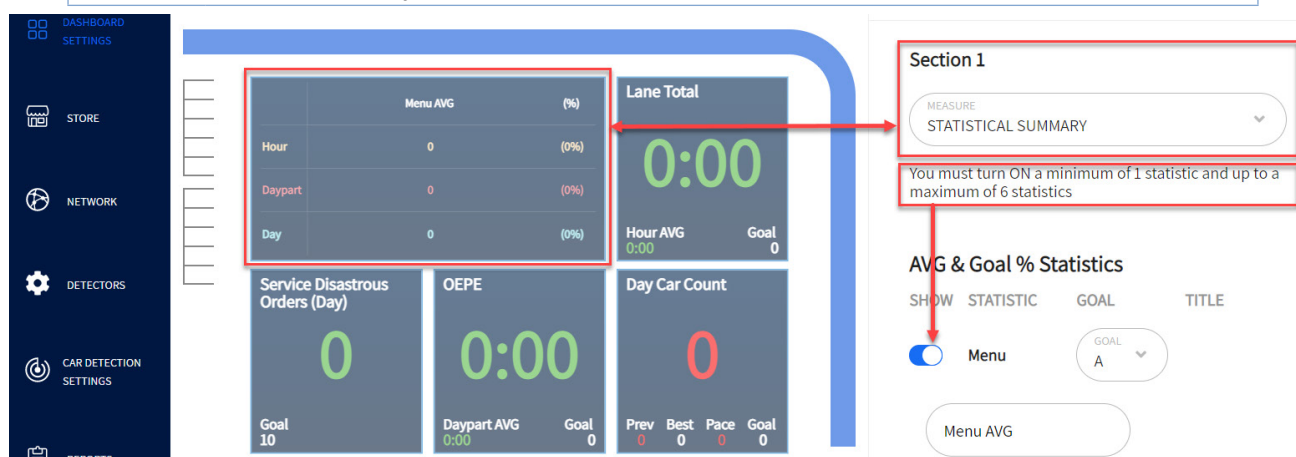

Fig. 3.6
The section pane must be large enough to support Statistical Summary data; therefore, only the large rectangular pane (Section 1) in Fig. 3.6 can accommodate a Statistical Summary. Click on the pane to open
**Section 1** for editing. Then, choose “Statistical Summary” from the drop-down list in the MEASURE field (this option will not appear if any other sections are selected because they can’t display this data). You must then enable at least one statistic from the list for the section pane to populate (see Fig. 3.6).